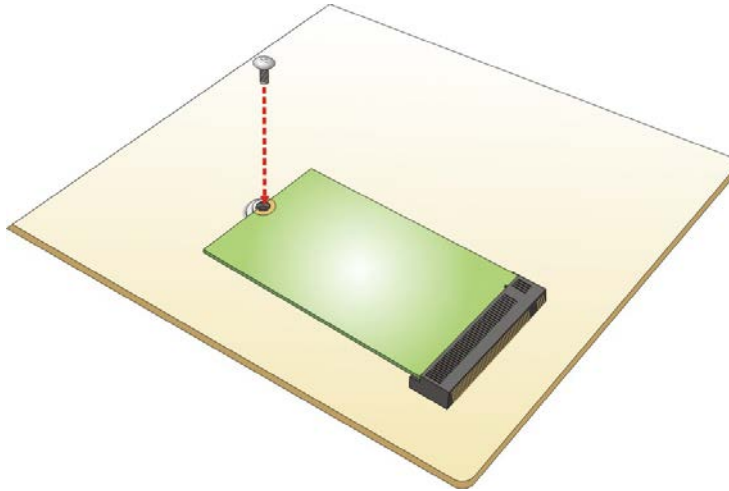

Figure 3-14: Securing the M.2 Module
Step 4: Secure the M.2 module with an M2*3 retention screw (**Figure 3-14**).
- Step 4:** Secure the HDMI cable by fastening the captive screw under the holder (**Figure 3-14**).